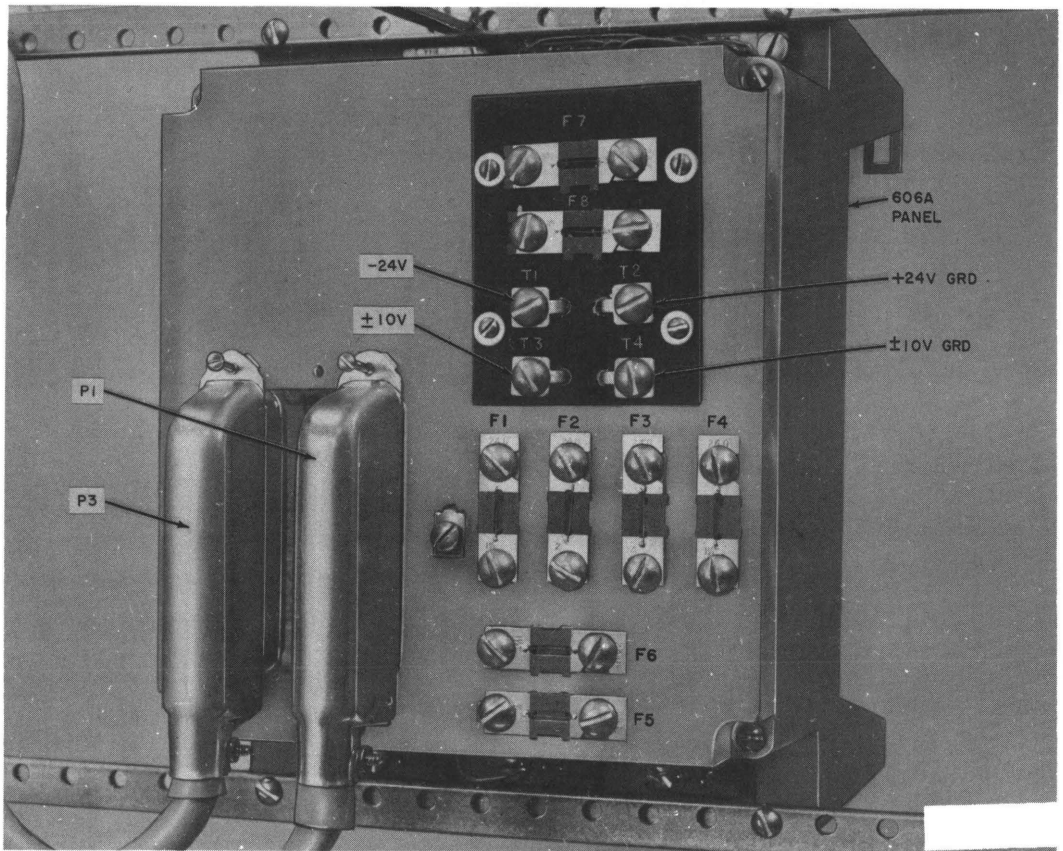

Fig. 5—606A Panel (Rear View)
1. POWER SUPPLY CONNECTS TO REAR OF 606A PANEL (SEE FIG 5).
**3.16** Connect leads to the two 400D KTUs, KTS power supply, and key telephone station as shown in Fig. 5, 7, 9, and 10.